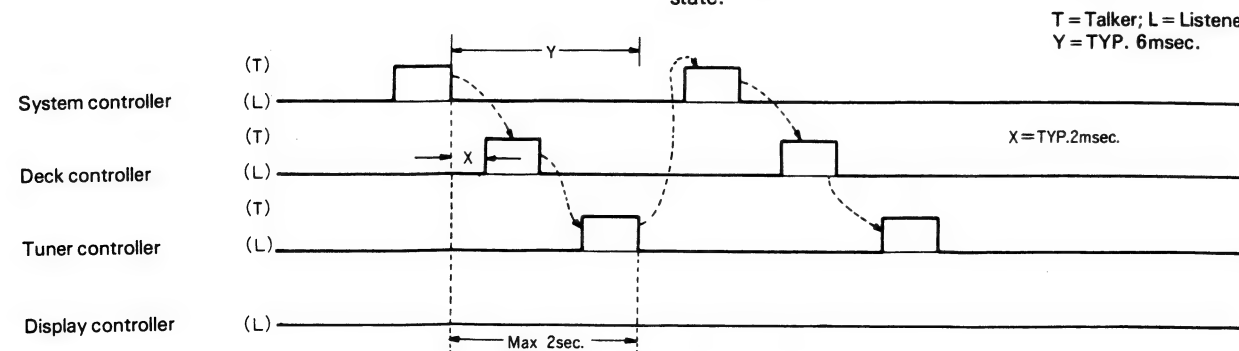

Fig. 12 Sequence of Switching between Talker and listener
In this unit, a system controller (PD4055A), a deck controller (PD 4056A), and a tuner controller are linked via eight bit serial data transmission. There are three signal lines. These are: a data line (SD), a serial clock line (SCK), and a CS line between the system controller and the display controller. The system, deck, and tuner controllers switch automatically between talker and listener in the sequence shown in Figure 12. The display controller is "listener only", and obtains 80 bits of serial data from the CS signal from the system controller.
Data is transmitted among the controllers by switching between talker and listener in the order shown in Figure 12 (system to deck to tuner to system). If two seconds pass after the command controller transmits a command, without a command being transmitted by either the deck or tuner controller, the system controller will transmit a "reset" command, followed by a "standby" command. The tuner and deck will then be switched "off." When the deck and tuner controllers receive the "reset" command from the system controllers, they will enter the "listener" regardless of the above timing. They will receive the "standby" command from the system controller in this state.